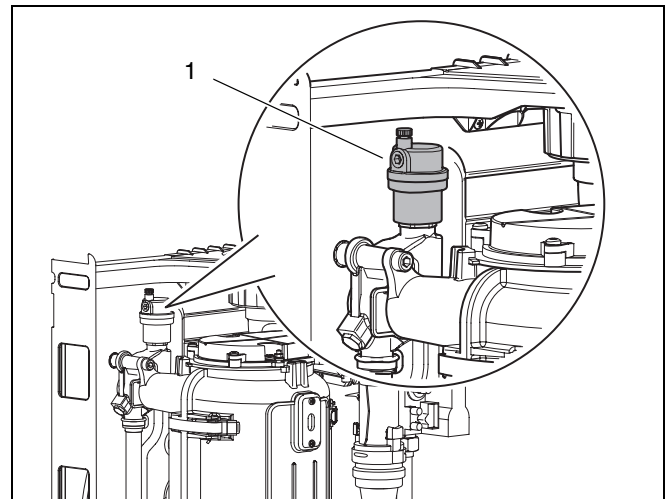

fig. 37 Automatic air vent
- Loosen the automated air vent one turn (fig. 37).